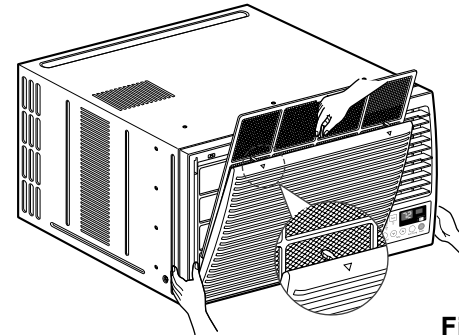

Figure 18
3. Pull the base pan forward. (See Figure 18)